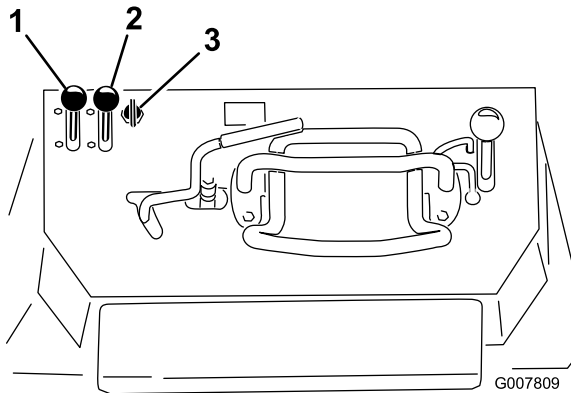

Figure 20
1. Move the throttle lever midway between Slow and Fast positions (Figure 20).
2. Move the choke lever to the On position (Figure 20).
- For an electric start model, turn the key to the On position (Figure 20). When the engine starts, release the key.
4. Gradually move the choke lever to the Off position (Figure 20). If the engine stalls or hesitates, engage the choke again until the engine warms up.
5. Move the throttle lever to the desired setting (Figure 20).
1. Move the throttle lever to the Slow position (Figure 20).
3. Turn the key off (Figure 20).